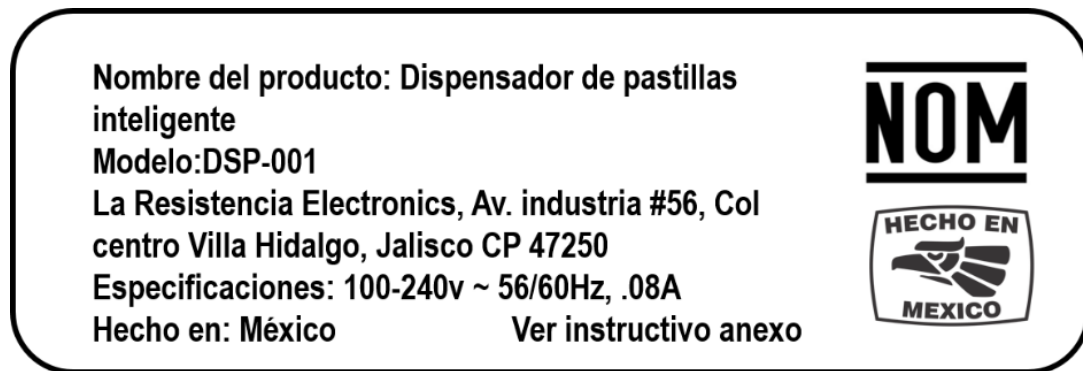

Figure 22- Product labeling
- NOM-024-SCFI-2013 (Figure 22)